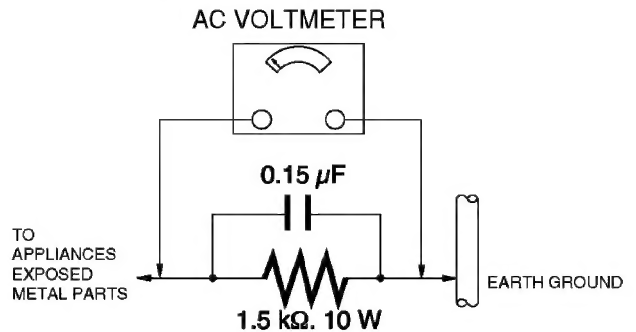

Figure 1
2. Connect a 1.5 k $\Omega$ , 10 W resistor, in parallel with a 0.15  $\mu$ F capacitor, between each exposed metallic part on the set and a good earth ground , as shown in Figure 1.